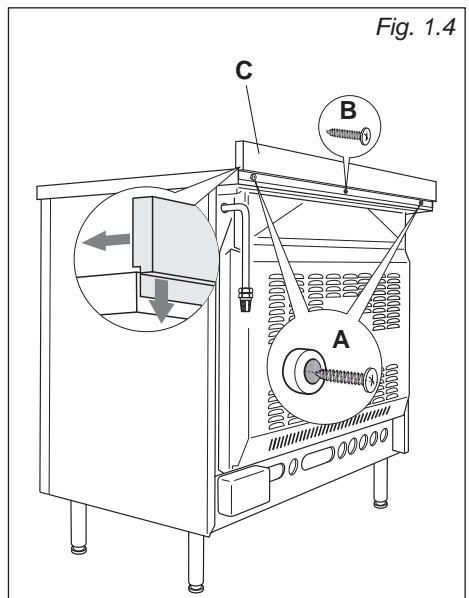

Fig. 1.4
Before installing the cooker, assemble the backguard "C" (fig. 1.4).
- Assemble the backguard as shown in figure 1.4 and fix it by screwing the central screw "B" and the spacers "A".